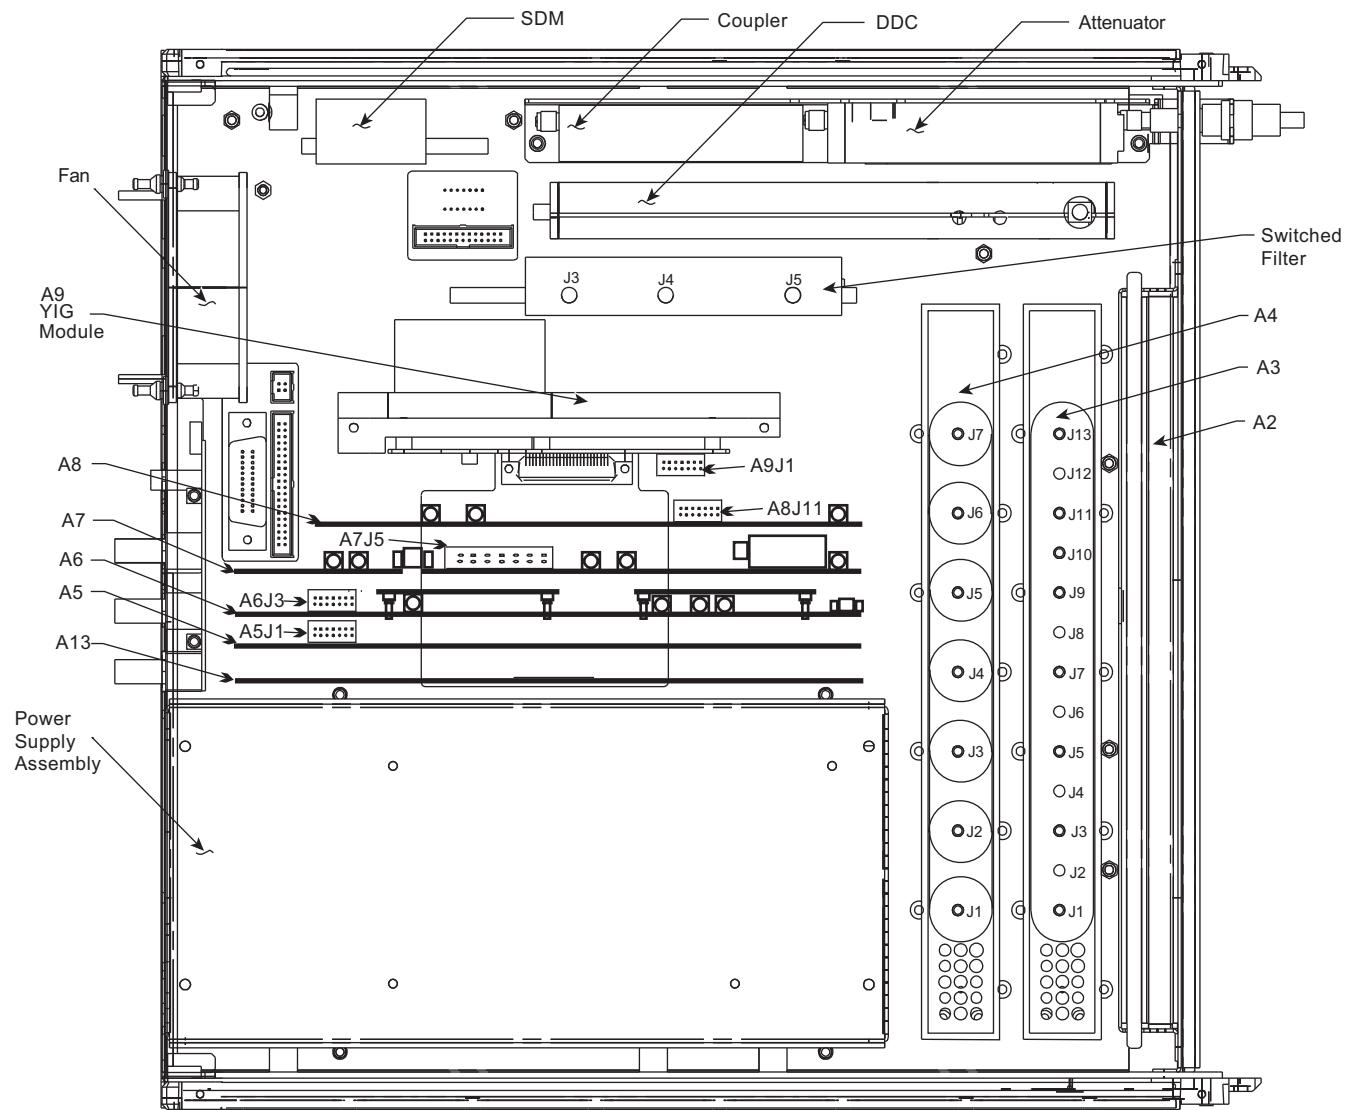

Figure 7-10. Locations of A5, A6, A7, A9, and A13 PCB Assemblies
See Figure 7-10 for locations of the A5, A6, A7, A8, A9, and A3 PCBs.
1. Grasp the A13 PCB by the edges and pull up to remove the board from the chassis connector. See Figure 7-10 on page 7-18 for locations of the A5, A6, A7, A8, A9, and A13 PCBs.